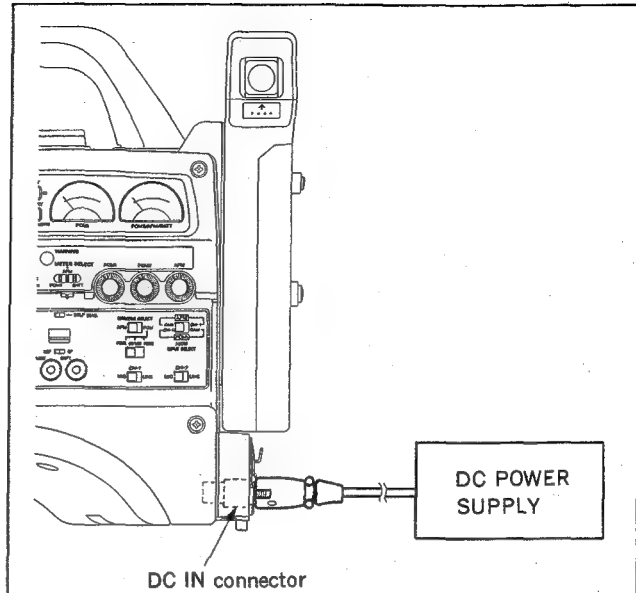

Fig. 1
1. Connect the DC power supply to the unit. (Fig. 1)